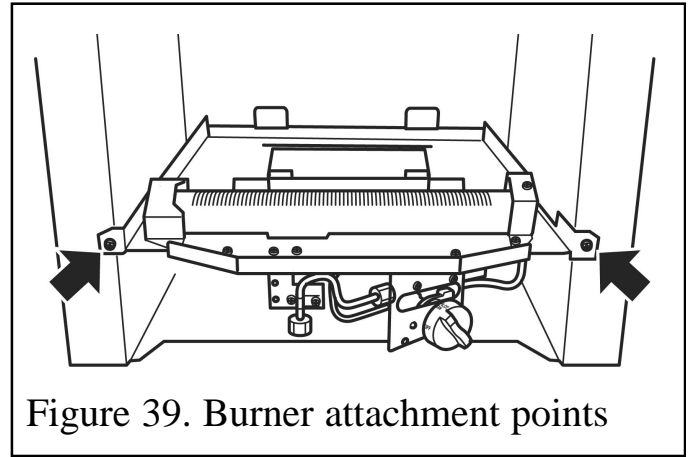

Figure 39. Burner attachment points
4. Detach the burner unit from the hotbox by removing two screws (See figure 39).